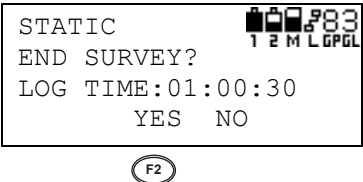

Figure 3-31. Confirm Observation Complete
13. Press **F2** (YES) to confirm (Figure 3-31).